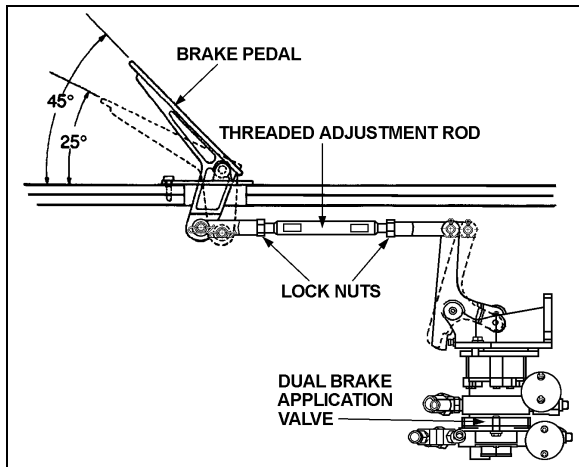

FIGURE 14: BRAKE PEDAL ADJUSTMENT 12208
The E-10P dual brake valve is a floor mounted, foot-operated type brake valve with two separate supply and delivery circuits. This valve is located in the front service compartment (Fig. 14).
1. Replace the linkage, loosen threaded rod lock nuts and screw or unscrew the threaded adjustment rod in order to obtain a 45° brake pedal inclination (Fig. 14).